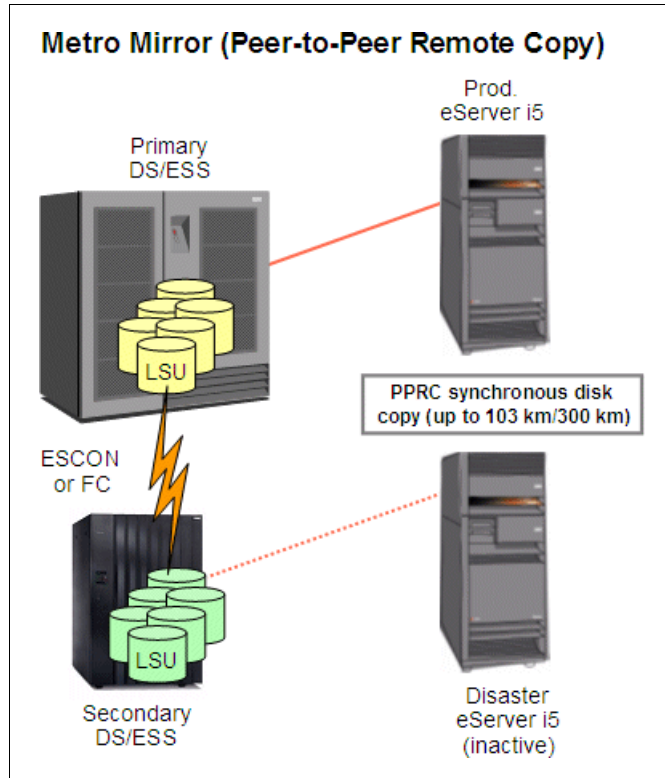

Figure 24-6 Mirrored external disks (Metro Mirror)
- Mirrored external disks, Metro Mirror (Figure 24-6 on page 441):